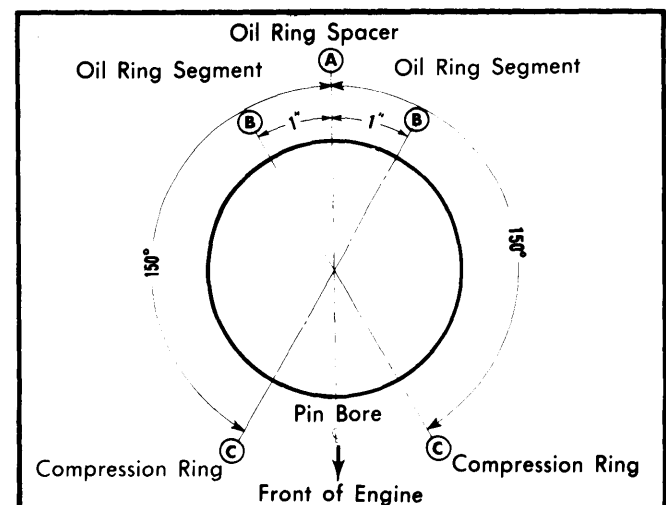

Fig. 5 Piston Ring Gap Spacing
**Installation** — 1) Lightly coat cylinder bores, pistons and rings with engine oil. Ensure that ring gaps are properly spaced (see Fig. 5) and install ring compressor on piston.